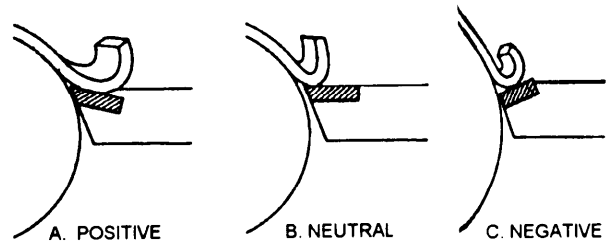

Figure 5-15.—Side view of rake angles.
**RAKE ANGLE.**—When selecting rake angles (fig. 5-15), you need to consider the machining conditions. Use negative rake where there is maximum